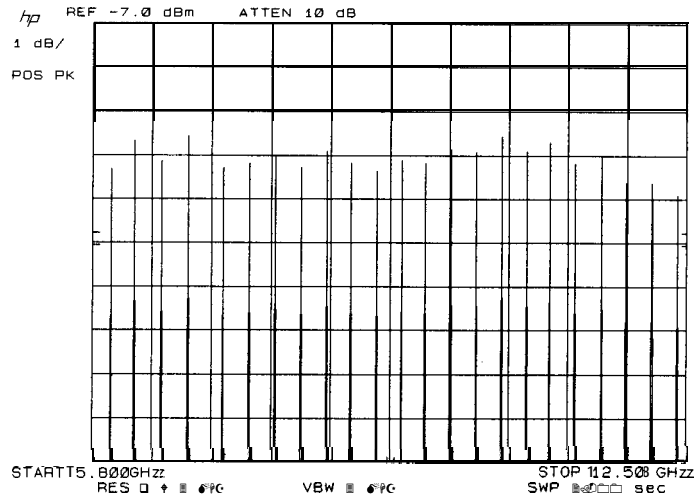

Figure 3-97.
97. On the spectrum analyzer, key in TRACE A **(CLEAR-WRITE)**, **(SWEEP TIME)** 2s, MARKER **(OFF)**, **(HOLD)**. As the spectrum analyzer completes each sweep, a series of approximately 23 new responses should be displayed, as shown in Figure 3-97. The